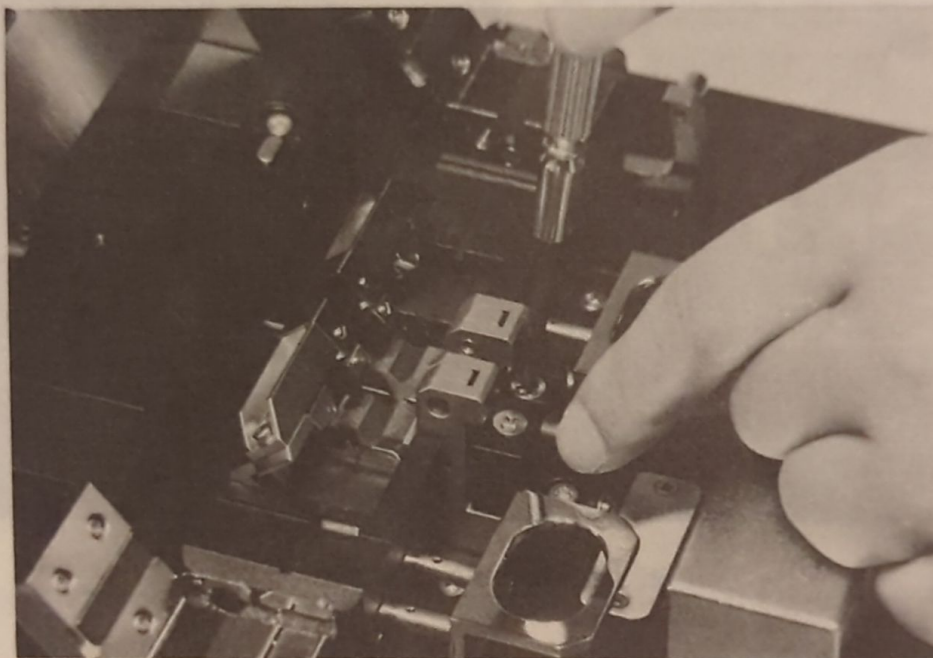

Fig. 31 Replacement of Discharge Electrode
Since the replacement of the electrode is dangerous, please make sure to turn off the POWER switch ③①. After removing the electrode cover ①, loosen the screws of the electrode stator ⑫ and then pull out the discharge electrode ⑬. (Refer to Fig. 31) Put in the new discharge electrode ⑬, tighten the screws and then put on the electrode cover. Be careful not to deform the needle point of the electrode. Such deformation may cause the abnormal discharge. When you need to replace a discharge electrode, please replace both electrodes in pair. After replacing, discharge several times without fail (Refer to Section 5.1 Caution (3)).